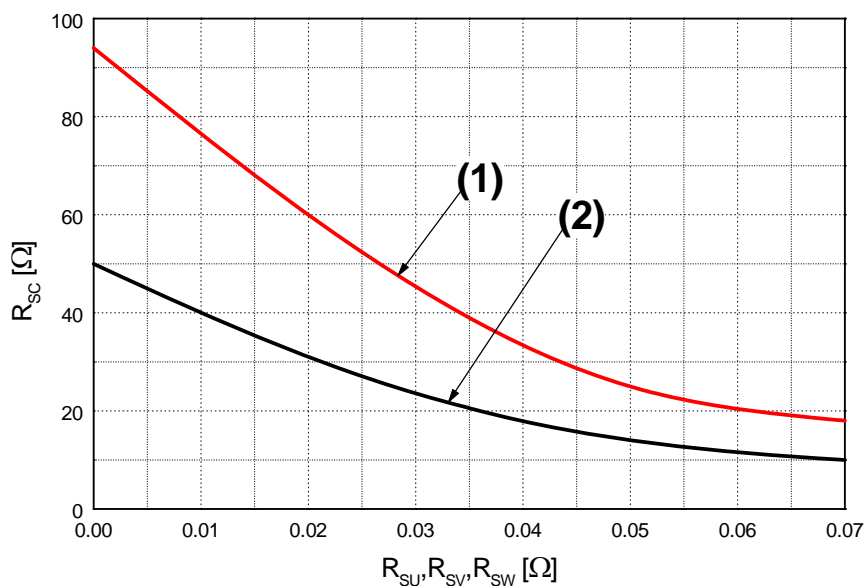

Figure 6. R_{sc} Variation by Change of Shunt Resistors (R_{SU}, R_{SV}, R_{SW}) for Short-Circuit Protection
- Short-circuit protection is functioning only at the low-sides. It would be recommended that the value of the external sensing resistor (R_{SC}) should be selected around 50 Ω in order to make the SC trip-level of about 30A at the shunt resistors (R_{SU}, R_{SV}, R_{SW}) of 0 Ω. For the detailed information about the relationship between the external sensing resistor (R_{SC}) and the shunt resistors (R_{SU}, R_{SV}, R_{SW}), please see Figure 6.